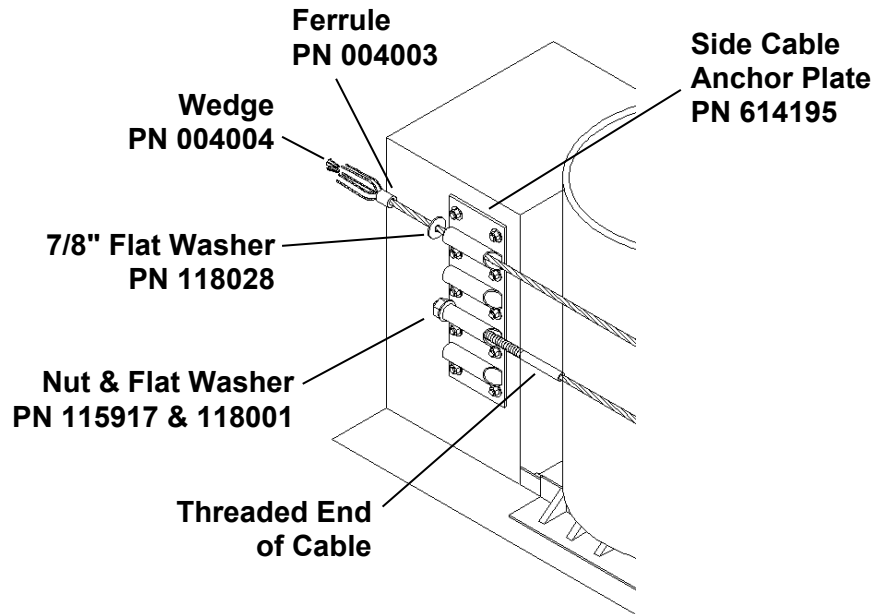

Figure 21 - Routing First Cable
**Warning:** Four (4) Restraining Cables must be attached; two (2) on each side of the Concrete Backup.
- A. Slide the threaded end of a Restraining Cable through the third guide down and attach flat washer and nut as shown in Figure 21. Tighten the nut so it is flush with the end of the threaded end of cable.
Use the nuts on the threaded end of the cables to tension the cables (Figure 21).